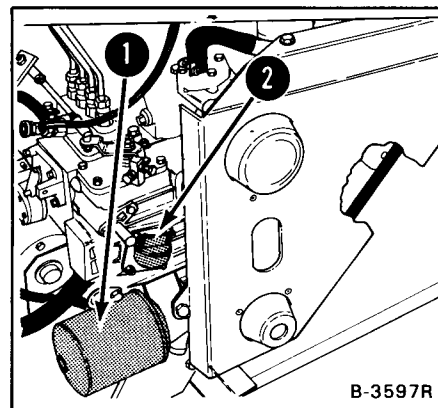

Fig. 51 Remove Oil Filler Cup
3. Remove the oil filter (Fig. 51, Item 1).
5. Install the oil plug. Remove the oil filler cap (Fig. 51, Item 2). Put 9 quarts (8,5 L) of oil in the engine (See the Oil Chart).